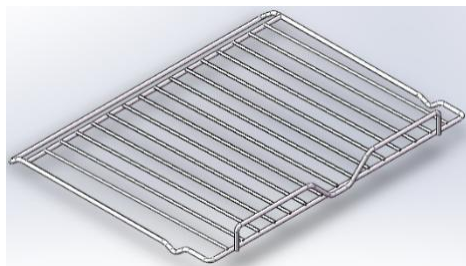

Fig.1
- ① Ordinary Microwave Function; ②Grill function (Can be combined with different functions) ;
- ④Microwave defrost; ⑥Temperature/Power/Weight;⑦Time setting symbol; ⑧Working time;
- ⑨ Heating Time;⑩ 8 different manuals;⑪ Duration time/Working Temperature/Alarm Time display⑫Alarm Symbol; ⑬Temperature up; ⑭Light; ⑮End Time; ⑯Lack of water; ⑰
- Boost; ⑱Child lock
•Wire shelf (Fig.1)